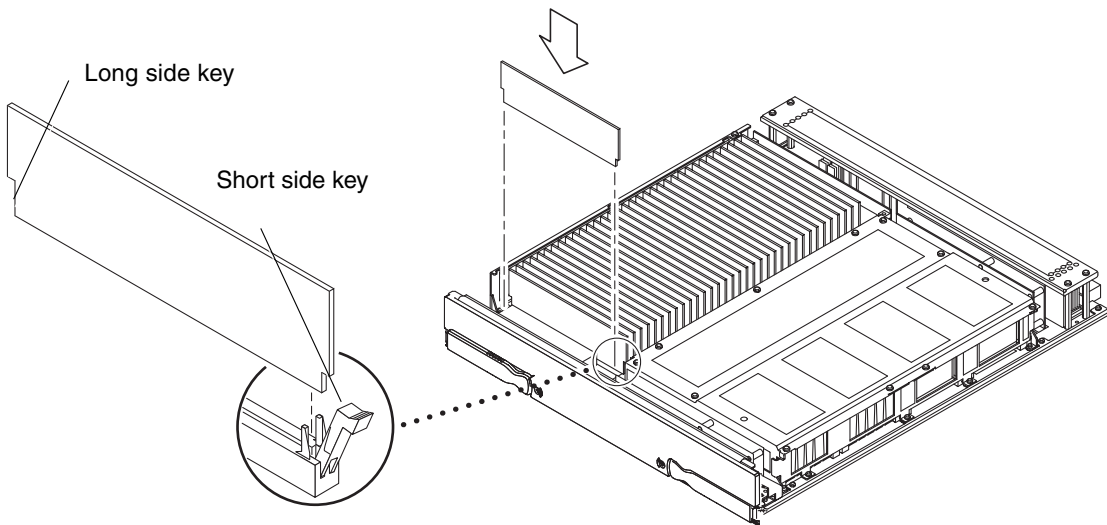

FIGURE 15-12 Installing a DIMM
7. Place your thumbs on the top edge of the DIMM. Push the DIMM firmly into its connector (FIGURE 15-12).